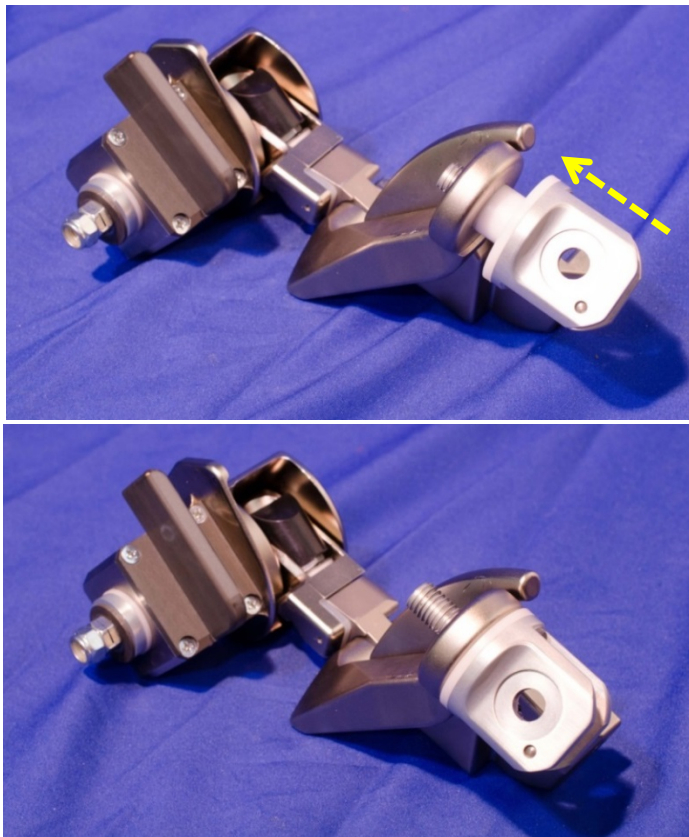

Figure 7-17. Install upper arm pivot bushing onto arm clevis
7.2.2.11 Install the upper arm pivot bushing onto the arm clevis (Figure 7-17). Insert into the shoulder assembly.